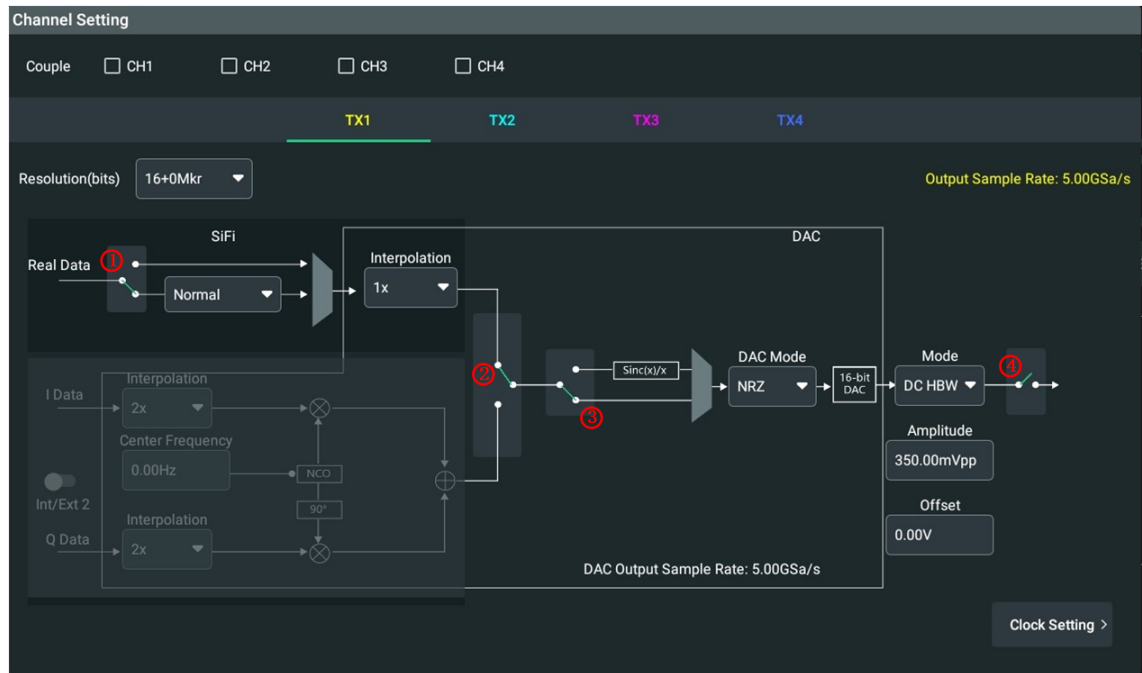

Figure 11.2 "Channel Setting" Menu
As shown in Figure 11.2, in "Channel Setting" menu, if the switch ④ is up, the channel is disabled with no signal output. Click or tap the switch ④ to go down. Then the channel is enabled for signal output. At this time, its output connector LED indicator and the photoelectric encoders of the operating knobs on the front panel are illuminated.